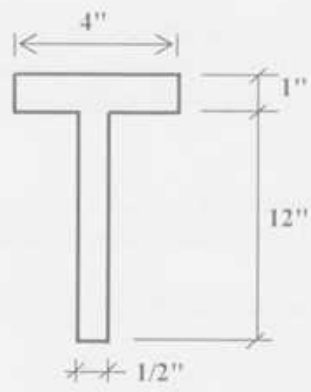

Fig. 2
2. Compute the yield moment and plastic moment capacities and shape factor for major axis bending of the section shown in Fig. 2. Given $F_y = 42$ ksi.